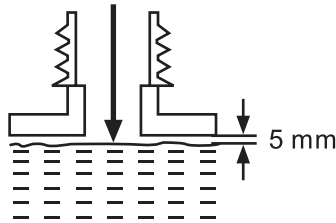

Fig. 8
b). Unscrew and remove the tank cap (1), then add the lubricant into the tank. We recommend using environmentally-friendly chain oil specifically intended to be used with this product.
c). Use a proper funnel with a filter to prevent debris entering the tank and to avoid spilling and overfilling the tank. Do not overfill and leave approximately 5 mm of space to the lower edge to allow the lubricant to expand. (See Fig. 8)